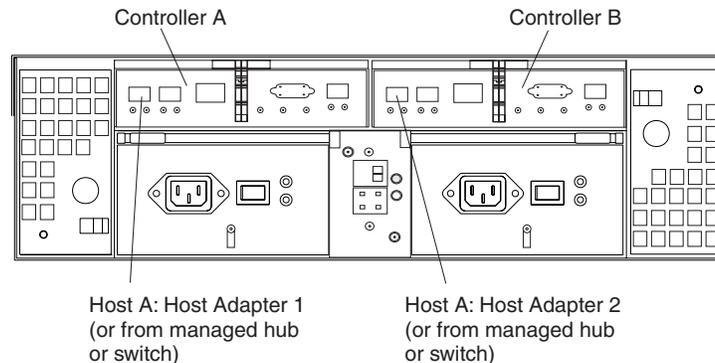

Figure 66. Location of host cables (Model 60U/60X)
2. Connect the host-system fibre channel cables between the RAID controller host ports and the HBA ports or fibre channel switch ports. Figure 66 shows the location on the RAID controllers where the host-system cables connect.